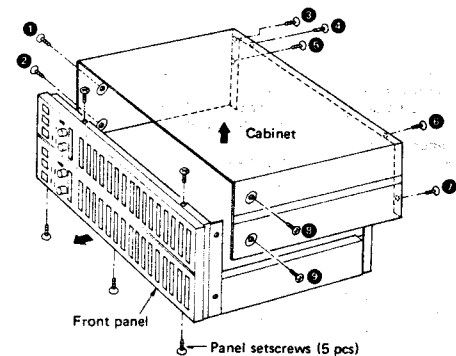

Fig. 2
1. Remove the setscrews 1 ~ 9 [Fig. 2] to remove the cabinet.
2. Remove the 5 setscrews [Fig. 2] of the front panel.